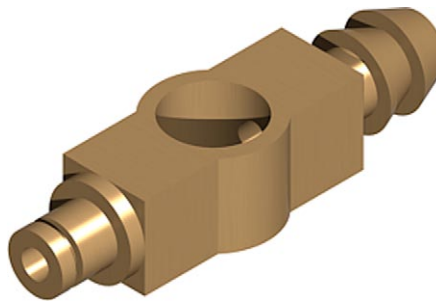

Fig. 18.16 Second example – 3D models
Second example (Fig. 18.16)
5. **Isometric**. Render (Fig. 18.16).